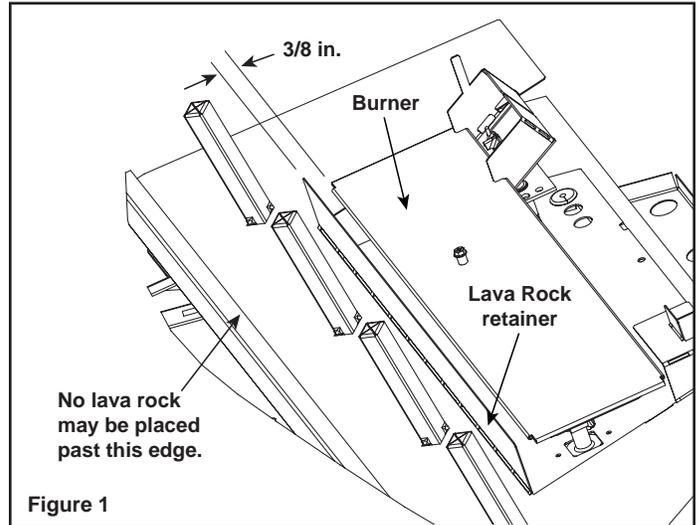

Figure 1
**Note:** Figure 1 illustrates the recommended gap between the burner and the lava rock retainer.